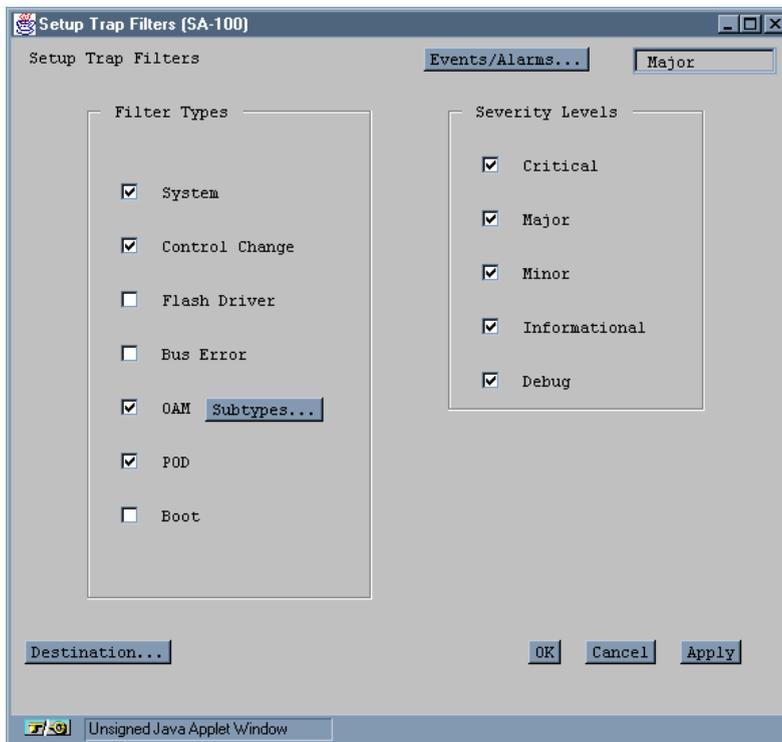

Figure 7-5. Setup Trap Filters Window
1. Choose the Set Trap Filters button from the Filter Management frame of the Event Management window. The Setup Trap Filters window appears (see Figure 7-5).